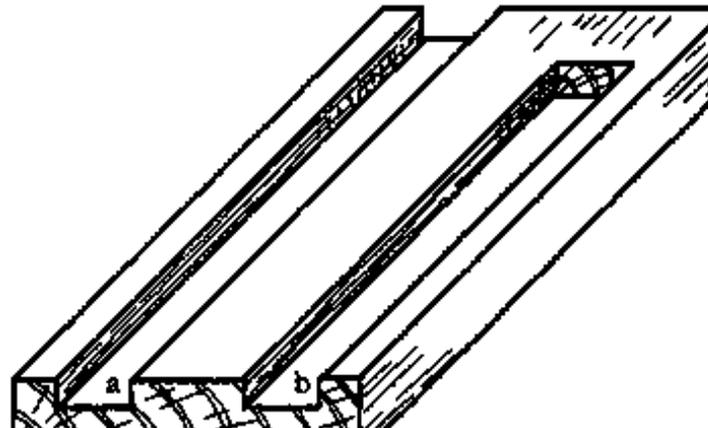

Fig. 3
- **GROOVE:** This is a recess cut along the grain. A “through” groove runs the whole length of the piece (Fig. 3, a); while a “stopped” groove is stopped at one or both ends (Fig. 3, b).